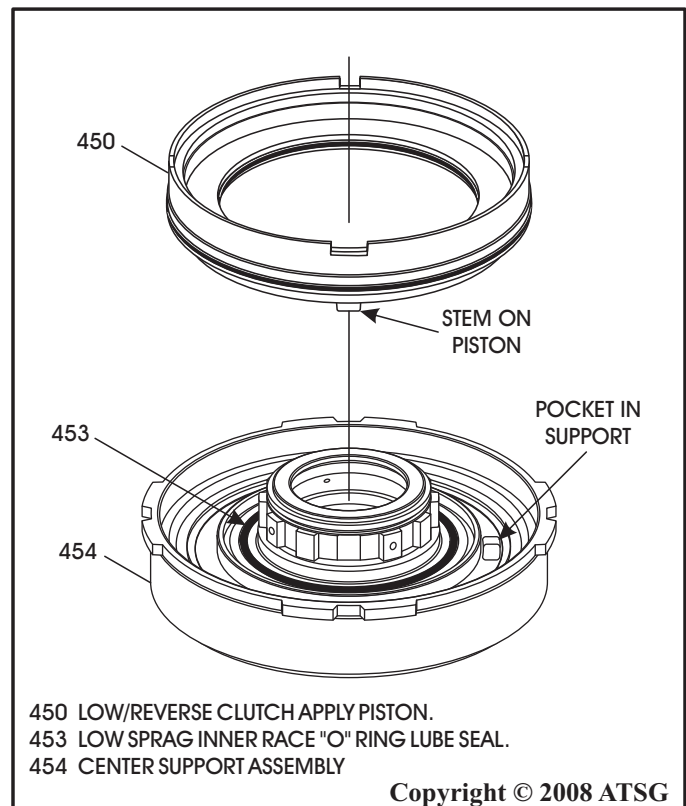

Figure 115
8. Install the low/reverse piston into the center support, as shown in Figure 115.
Note: The piston has a stem on it that must fit into a pocket in the center support, for it to be fully seated, as shown in Figure 115.